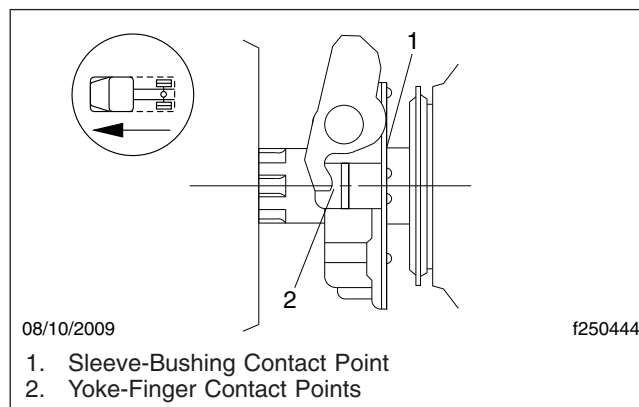

Fig. 2, Grease the Contact Points
4. Wipe off excess grease and apply it to both the yoke-finger and the sleeve-bushing contact points. See Fig. 2.